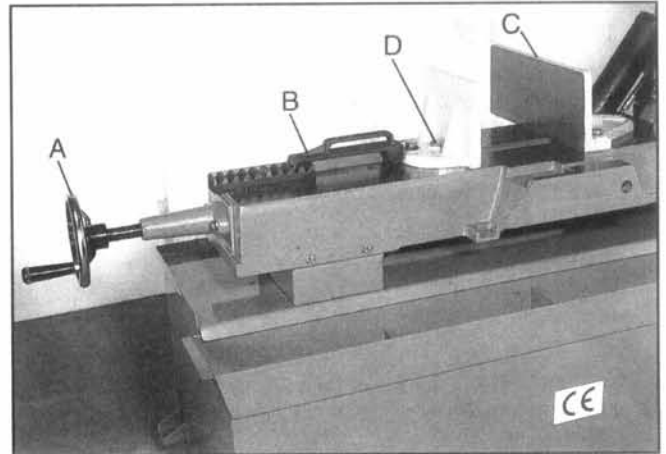

Fig. 10
1. Turn vise handwheel (A – Fig.10) 1/2 turn counter-clockwise.
2. Move rack block (B – Fig.10) to desired location by sliding along the bed. Place the rack block onto the rack.
1. Loosen bolts and move vise jaw (C – Fig.10) to desired location.
3. Make sure the movable vise jaw parallels to the fixed vise jaw. Loosen the bolt (D – Fig.10) and adjust it until it is in parallel with the fixed vise jaw and tighten the bolt.